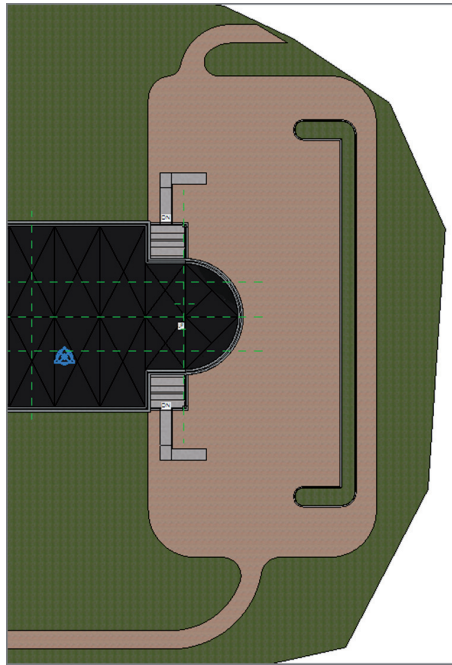

FIGURE BC3.15: Adding the component to the parking lot
9. Place the parking island in a location similar to that shown in Figure BC3.15. Note that you'll have to press the spacebar to orient the component correctly. Click Modify.